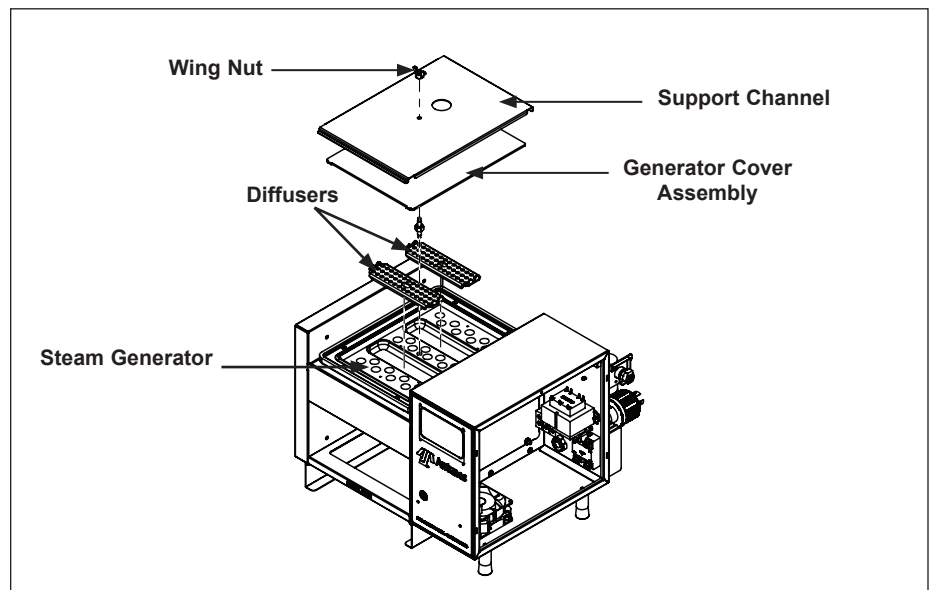

Figure 7. Steam Generator
5. Remove wing nut and generator cover assembly, generator gasket, and diffusers (Figure 7).